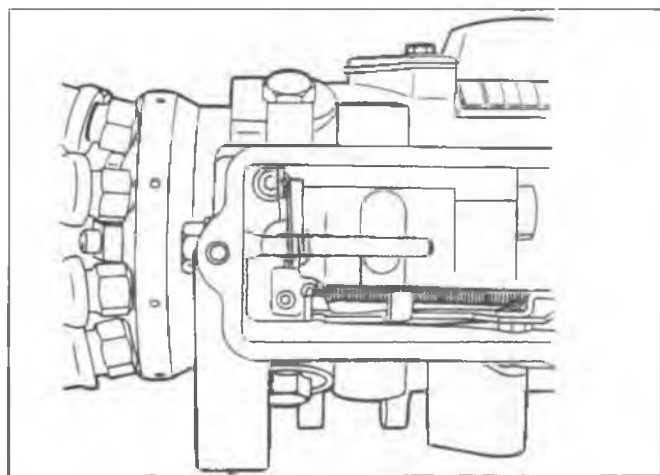

Fig. 2-11 Valve Spring Over Guide Stud
10. Observe position at metering valve spring over the top of the guide stud. This position must be exactly duplicated during reassembly. (Fig. 2-11).